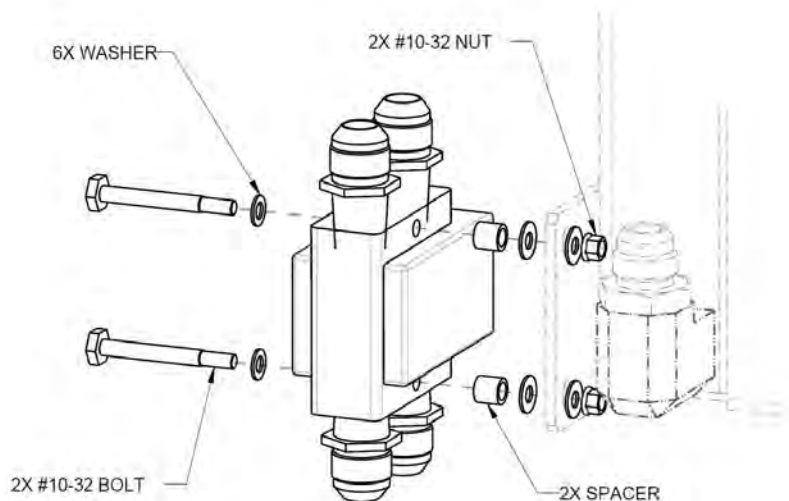

FIGURE 17-47
10. Use a 3/8 and a 1/4 wrench to remove the two #10-32 bolts, spacers, nuts, and six washers that attach the Thermostat to the Oil Cooler. Remove the Thermostat. (Figure 17-47)
5. Install THERMOSTAT onto OIL COOLER as shown in Figure 17-47.